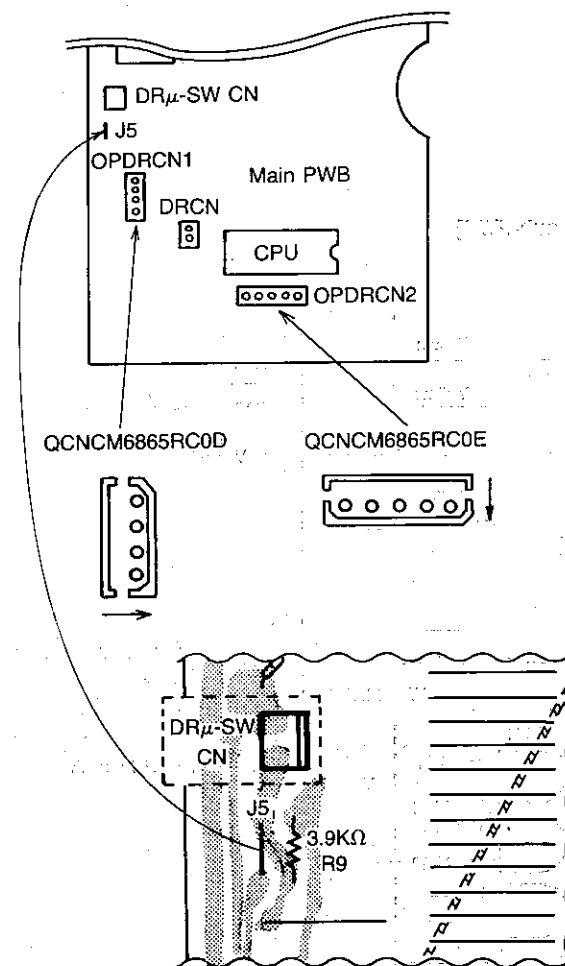

Fig. 8-10
- ④ Solder a jumper wire (J5) onto the main PWB. (See Fig. 8-10) then replace the main PWB.
- ⑤ Mount the drawer control sub-PWB above the main PWB using spacer and screw as shown below.